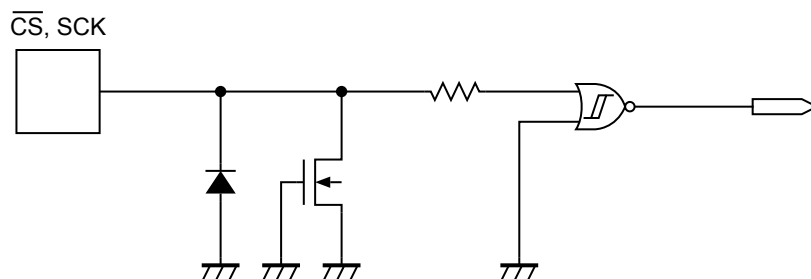
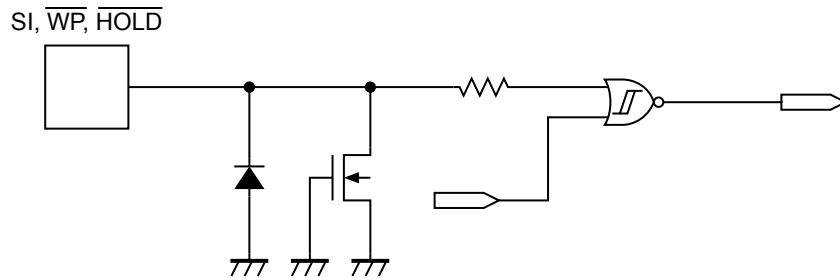

Figure 19  $\overline{CS}$ , SCK Pin
Figure 20 SI,  $\overline{WP}$ ,  $\overline{HOLD}$  Pin
**Figure 19** and **Figure 20** show the equivalent circuits of input pins in this IC. A pull-up and pull-down elements are not included in each input pin, pay attention not to set it in the floating state when you design.